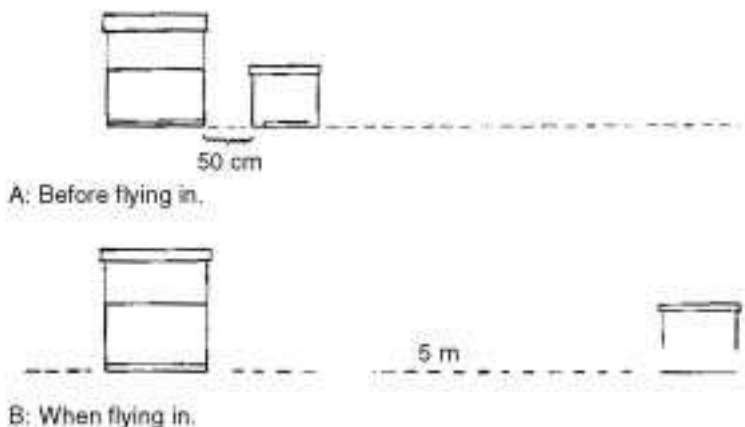

Figure 27: Position of the 2 hives before and when flying in.
- Driving foraging bees of a neighbouring hive towards the colony to be strengthened (figure 27). The hives that have to be united, must have been standing next to each other for some weeks. Then move the hive of the colony from which you want the flight bees to fly off some 5 meters away and move the hive of the colony